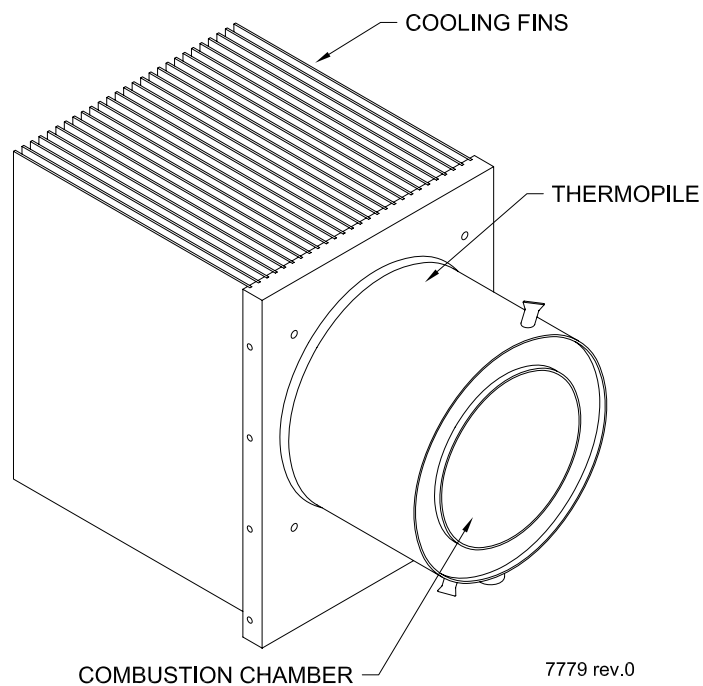

Figure 16 Power Unit
3.2 Power Unit: See Figure 16.